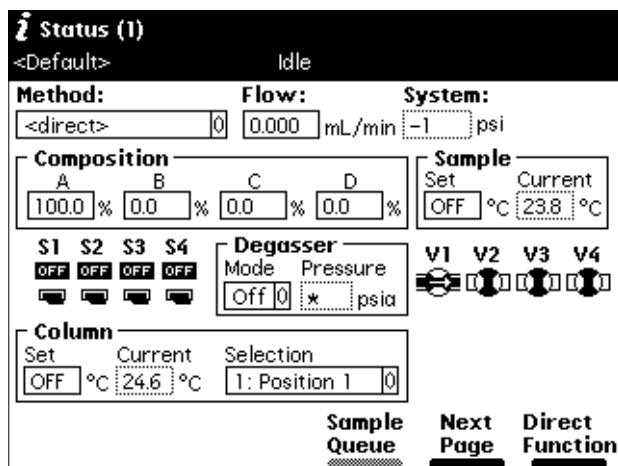
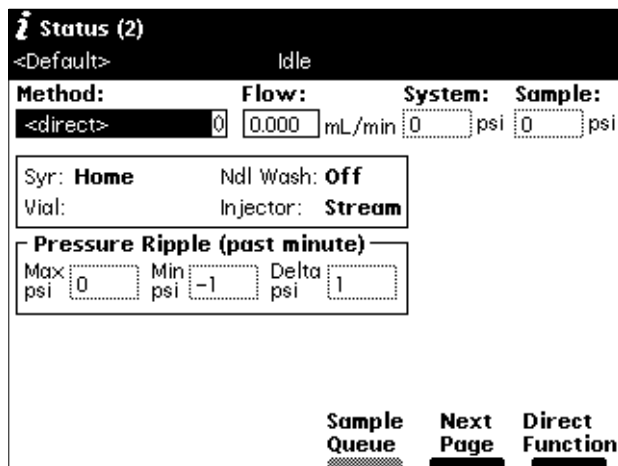

Figure 3-2 First Page of Status Screen (Default)
Figure 3-3 Second Page of Status Screen (Default)
You perform direct control runs from the Status screen (Figure 3-2 and Figure 3-3). The fields in the Status screen indicate the status or values of the current operating parameters, as described in Table 3-1. The Status screen also allows you to enter new values for certain parameters.
Press the **Next Page** screen key to display the second page of the Status screen (Figure 3-3).
1. Press the **Menu/Status** key (if necessary) to display the Status screen (Figure 3-2).